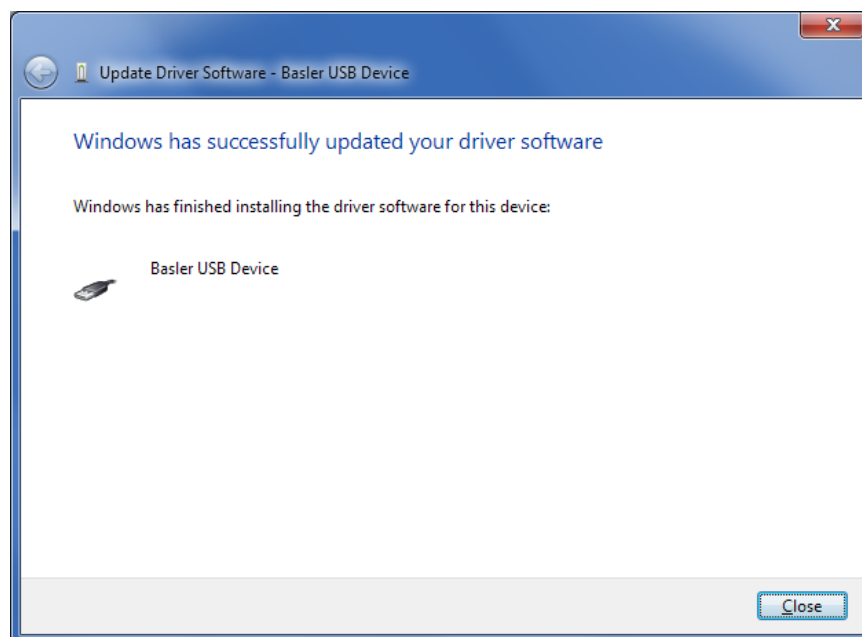

Figure 234. Driver Software Update Successful
Step 7. The window in Figure 234 appears if driver installation was successful.